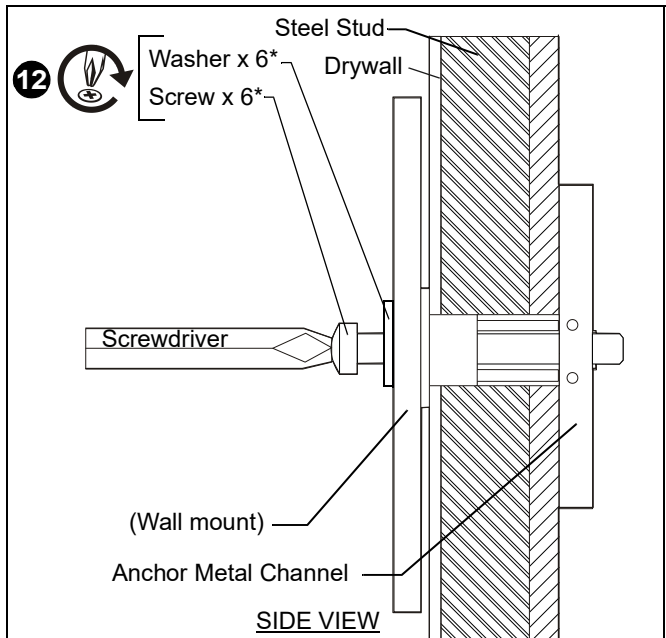

Figure 7
10. Place mount (U) over anchors and align mounting holes in display mount with holes in anchors. (See Figure 7)
12. Insert Phillips pan head screw with flat washer through mounting hole in wall mount (U) and into anchor and tighten until flush against mount. DO NOT overtighten! (See Figure 7)